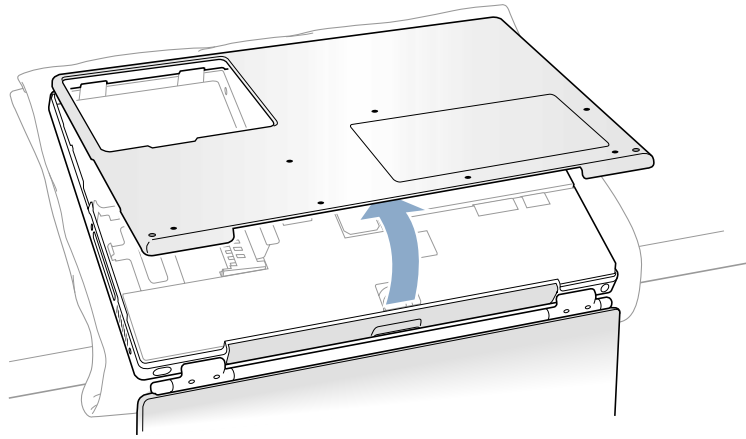

Figure 5
9. Pivot the bottom case up as shown (**Figure 5**).